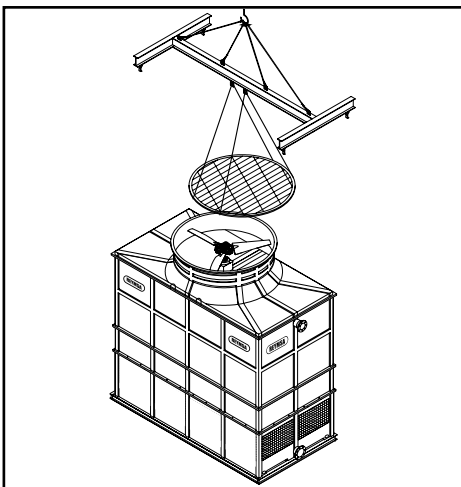

Figure A-91: Fan guard installation of the fan deck in an RTGM and RTGMTC Tower model.
- U. Before lifting up the fan deck, remove the fan guard. See Figure A-91 (only for RTGM-8 and RTGMTC-8 wide models).
- Y. Place the fan guard back over the duct section (see Figure A-91) and bolt it down (only for RTGM-8 and RTGMTC-8 wide models).